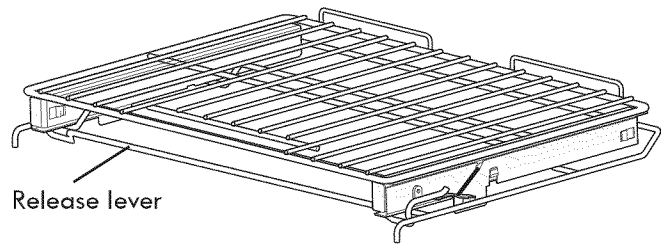

Figure 1 - Extensible glide rack with release lever in locked position
1. Lift up on the release lever located across the lower front of the rack, as shown in figure 1.